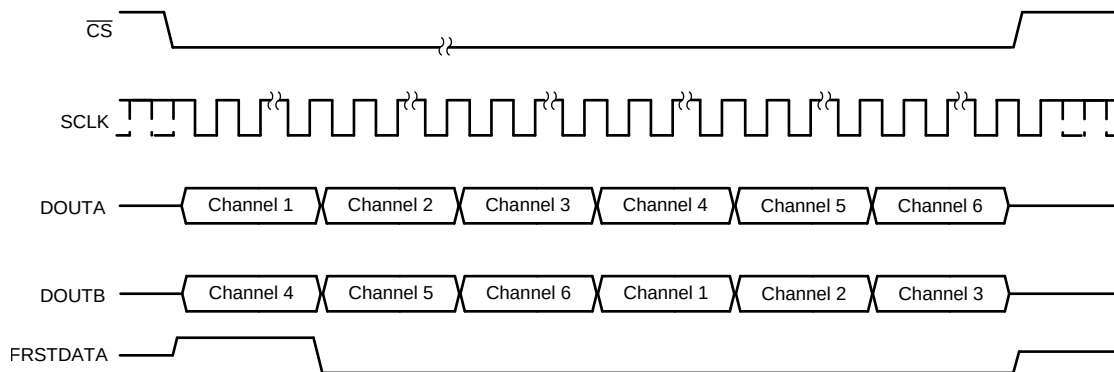

Figure 69. Data Read Back in the Serial Interface Using Either DOUTA or DOUTB Timing Diagram
- The conversion data can be read out of the device using only one of the two serial output lines, DOUTA or DOUTB. In this case, using DOUTA for output data read back is recommended because channel 1 data appear first on DOUTA followed by the data for other channels in ascending order. To read the data for all channels, provide a total of $16 \times 6 = 96$ SCLK cycles for the ADS8586S. This entire data frame can be created within a single $\overline{CS}$ pulse or each group of 16 SCLK cycles can be individually framed by the $\overline{CS}$ signal. The primary disadvantage of using just one data line for reading conversion data is that the throughput is reduced if a data read operation is performed after conversion. Figure 69 shows this operation.
- Alternatively, only DOUTB can be used for reading the conversion data from all channels. In this case, everything else remains the same and the output bit stream contains data for all channels in the following order: channels 4, 5, 6, 1, 2, and 3 for the ADS8586S. Figure 69 shows this operation.